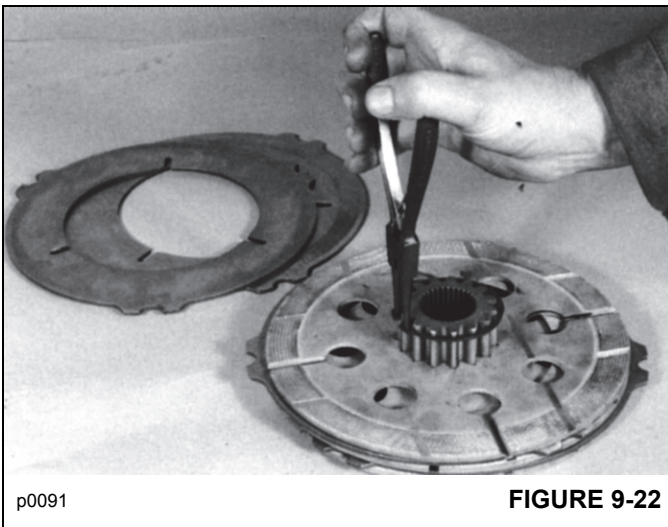

FIGURE 9-22
3. Assemble the friction plates and counterplates onto the carrier. If the original brake pack is being reused, return the plates to their original positions (see Disassembly step 3). Soak new friction plates in gear oil before assembly. Install retaining ring Figure 9-22.